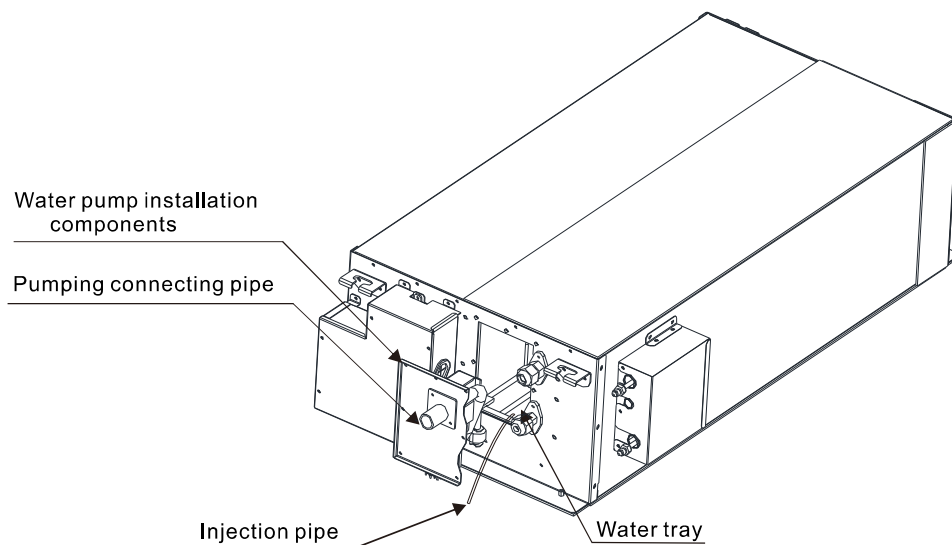

Figure 4.4
- 1) Remove water pump installation components, through water trying mouth; inject about 2000 mL of water into water tray through injection pipe. (See Figure 4.4)